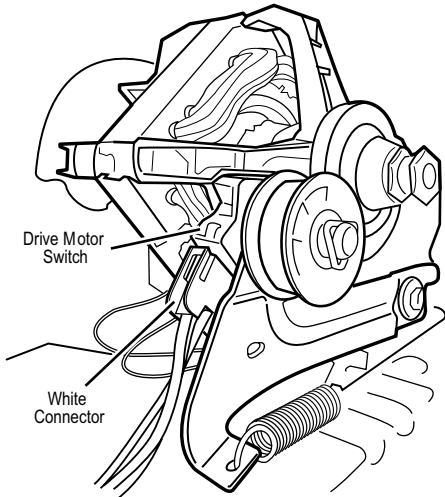

Figure 7. Remove white connector.
- Remove the white connector from the drive motor switch. See Figure 7.